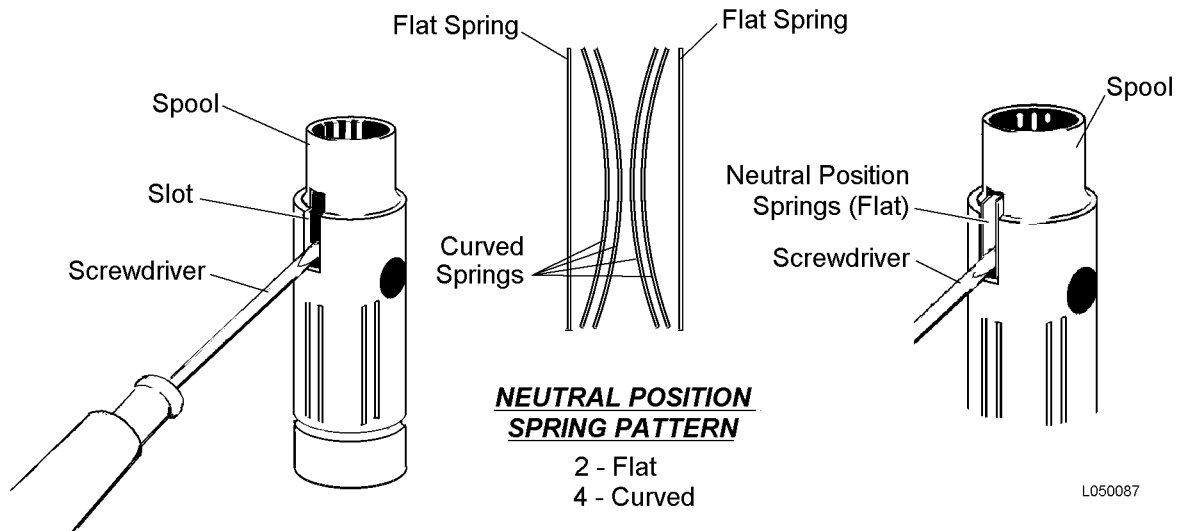

FIGURE 50-9. NEUTRAL POSITION SPRING INSTALLATION
3. To install the neutral position springs, place a screwdriver in the spool slot as shown in Figure 50-9.